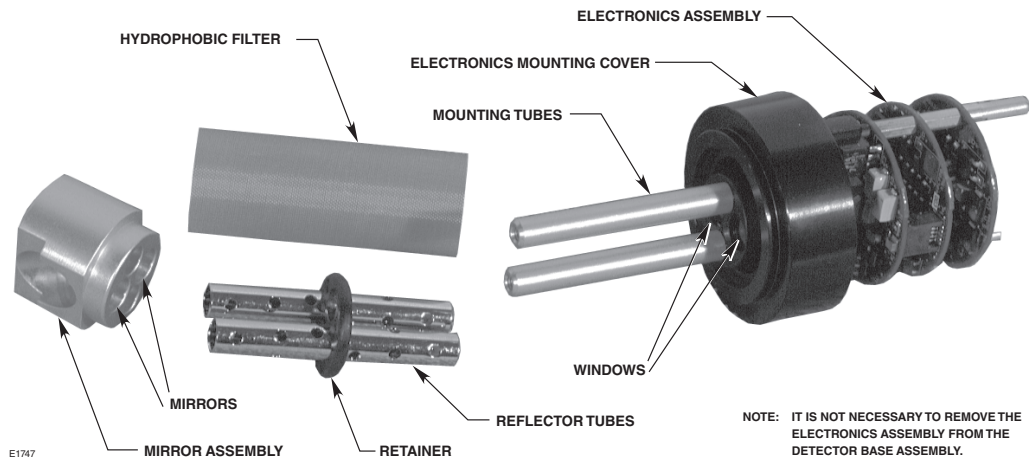
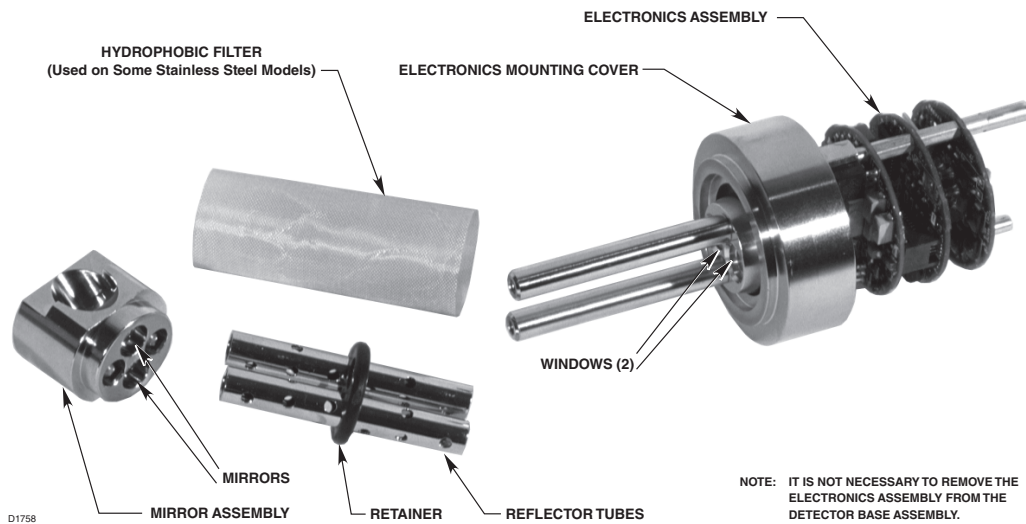

Figure 26—Aluminum PIR9400 Detector Disassembly for Cleaning
Figure 27—Stainless Steel PIR9400 Detector Disassembly for Cleaning
3. Disassemble the mirror assembly, reflector tubes and hydrophobic filter as shown in Figure 26 and Figure 27. Do not remove the electronics mounting cover.